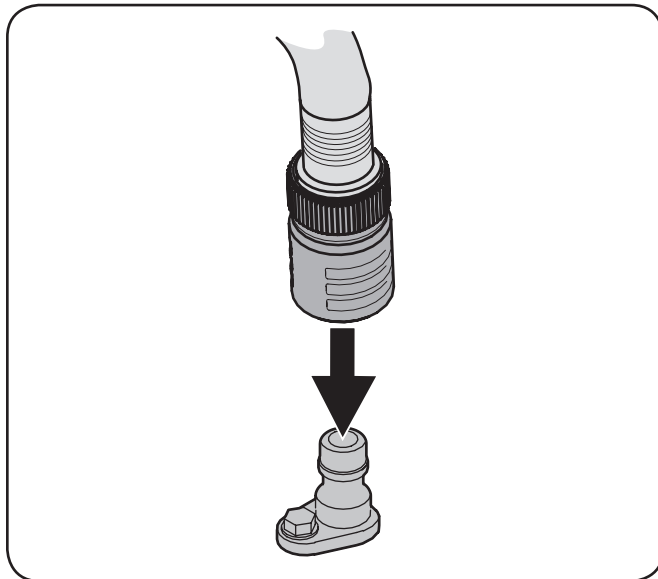

Figure 6-3
8. Pull back the lock collar of the nozzle adapter and push the adapter onto one of the deck wash nozzles at either end of the mower deck. Release the lock collar to lock the adapter on the nozzle. See Figure 6-3.